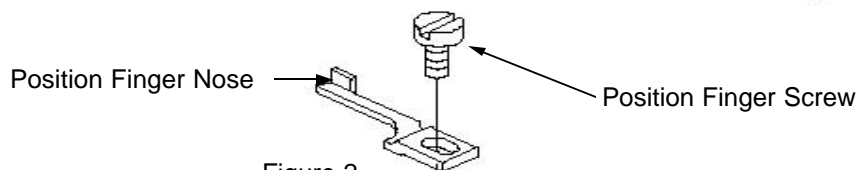

Figure 2
4. Move Position Finger left of right to center Position Finger nose with needle. See figure 2